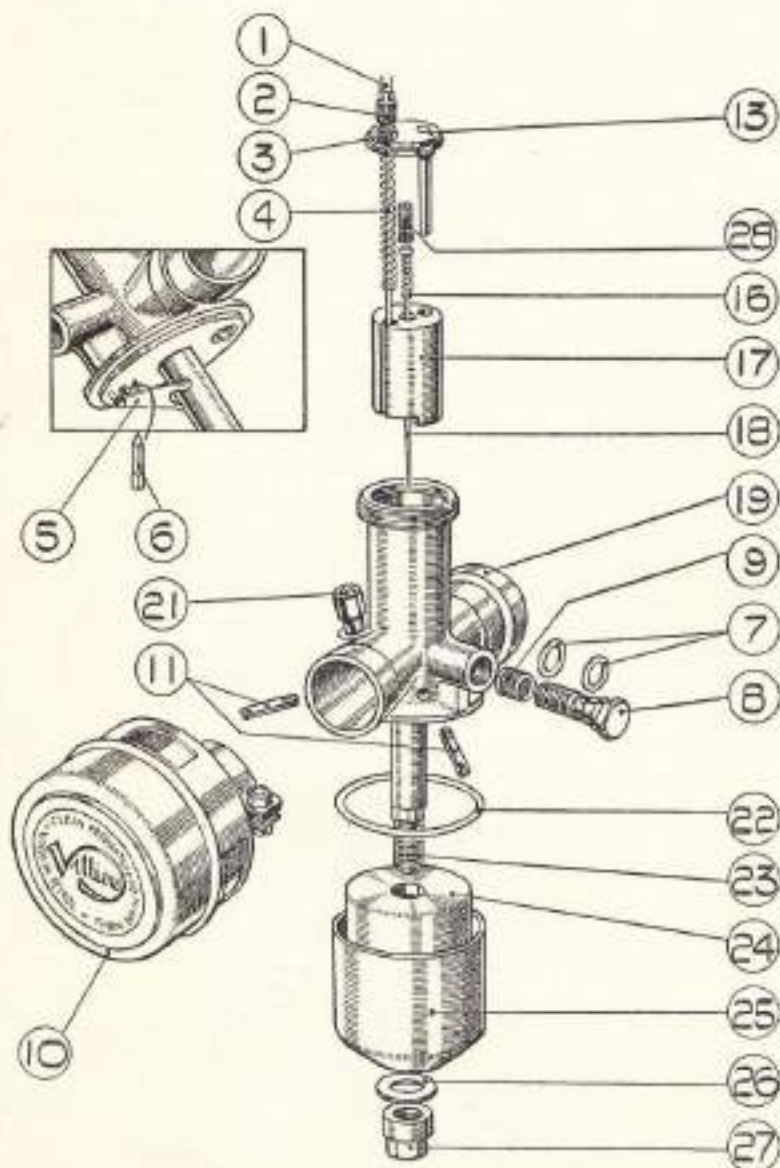

FIG. 27.
The Villiers type 3/4 carburetter (Fig. 27) is fitted to the Mk. 10D. engine, and a type 4/5 two-lever carburetter to the Mk. 6E. engine. These numbers will be found stamped on the inlet stub immediately behind the clip (No. 19 Fig. 27/28). The setting of the carburetter will be done by the maker after road testing the machine, and it should not be necessary to make any alteration except in exceptional conditions.
The function of the carburetter is to supply a mixture of fuel and air in correct proportions under all running conditions. In the Villiers carburetter, the float chamber (No. 25, Fig. 27) surrounds the jet centre piece (No. 23) and in it an annular float (No. 24) rises as the fuel enters the chamber until the correct level is obtained, then the fork lever (No. 5) which rests on the top of the float lifts the fuel needle (No. 6) which has a conical end and shuts off the fuel supply by closing the hole in the bush.
In the Mk. 10D. carburetter fuel enters the jet body through a hole (A) Fig. 29, and passes through the jet in which the long taper needle operates, and passes up through an offset hole (B) in the centre piece. The position of this needle relative to the slide can be altered by removing the screwed ring and top disc and screwing up or down the small screw in the centre of the slide. Screw in the screw to weaken the mixture, i.e., lower the needle. Screw out the screw to richen the mixture. The screw should not be loose in the throttle slide as it is likely to move and alter the setting. It is split to make it grip the hole. Should the screw be loose the split portion should be gently prized apart. Note the taper needle spring should be fitted with the small coil under the head of the needle. The slide (No. 17, Fig. 27) operated by the throttle cable controls the air supply and is fitted with taper needle (No. 18) which extends below the slide through the centre piece and into the needle jet. When the throttle slide closes the air supply the largest diameter of the needle nearly closes the fuel outlet, but when the slide is lifted admitting more air, the smaller diameter of the needle now in the jet allows more fuel to pass. A suitable combination of jet size, needle position and taper will give a correct mixture strength at all throttle openings.
On both the Mk. 10D. and Mk. 6E. carburetters a further refinement to compensate for engine speed, which also assists in atomising the fuel is provided. The offset hole (C) Fig. 27/28, in the centre piece allows air to enter just above the needle jet, which it should be noted is submerged. This hole communicates with the atmosphere through a tube (D). The size of this hole in the centre piece determines the amount of correction provided.
Unscrew the bottom nut (No. 27, Fig. 27/28) underneath the float chamber cup.
A certain amount of slack may develop in the throttle cable after a time; this can be taken up by means of the adjuster on the top of the carburetter (No. 2, Fig. 27).